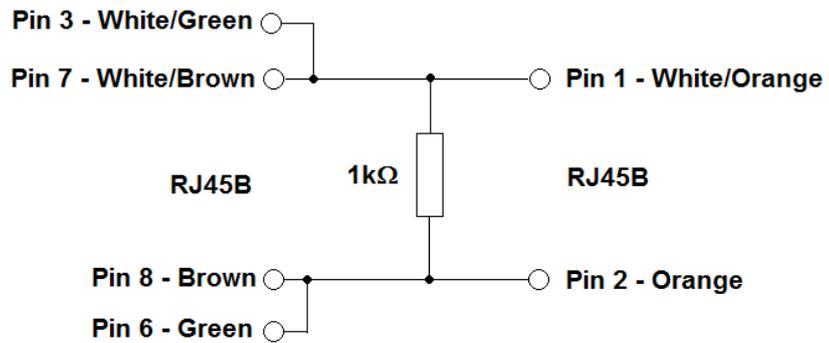

Figure 6, Model 9120 Test Fixture
- The initial test procedure works by using a simple fixture consisting of a 1 kΩ resistor which is driven by the 9210’s oscillator output, while the two voltage inputs measure the resulting voltage and the current monitoring stage measures the output current. The schematic of the fixture is as shown below in figure 6.